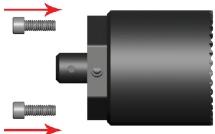

Figure 3
**3.0.1)** Screw the 4-inch core sampling cutter to the adaptor and lock in place with cutter hardware (see Figure 3).